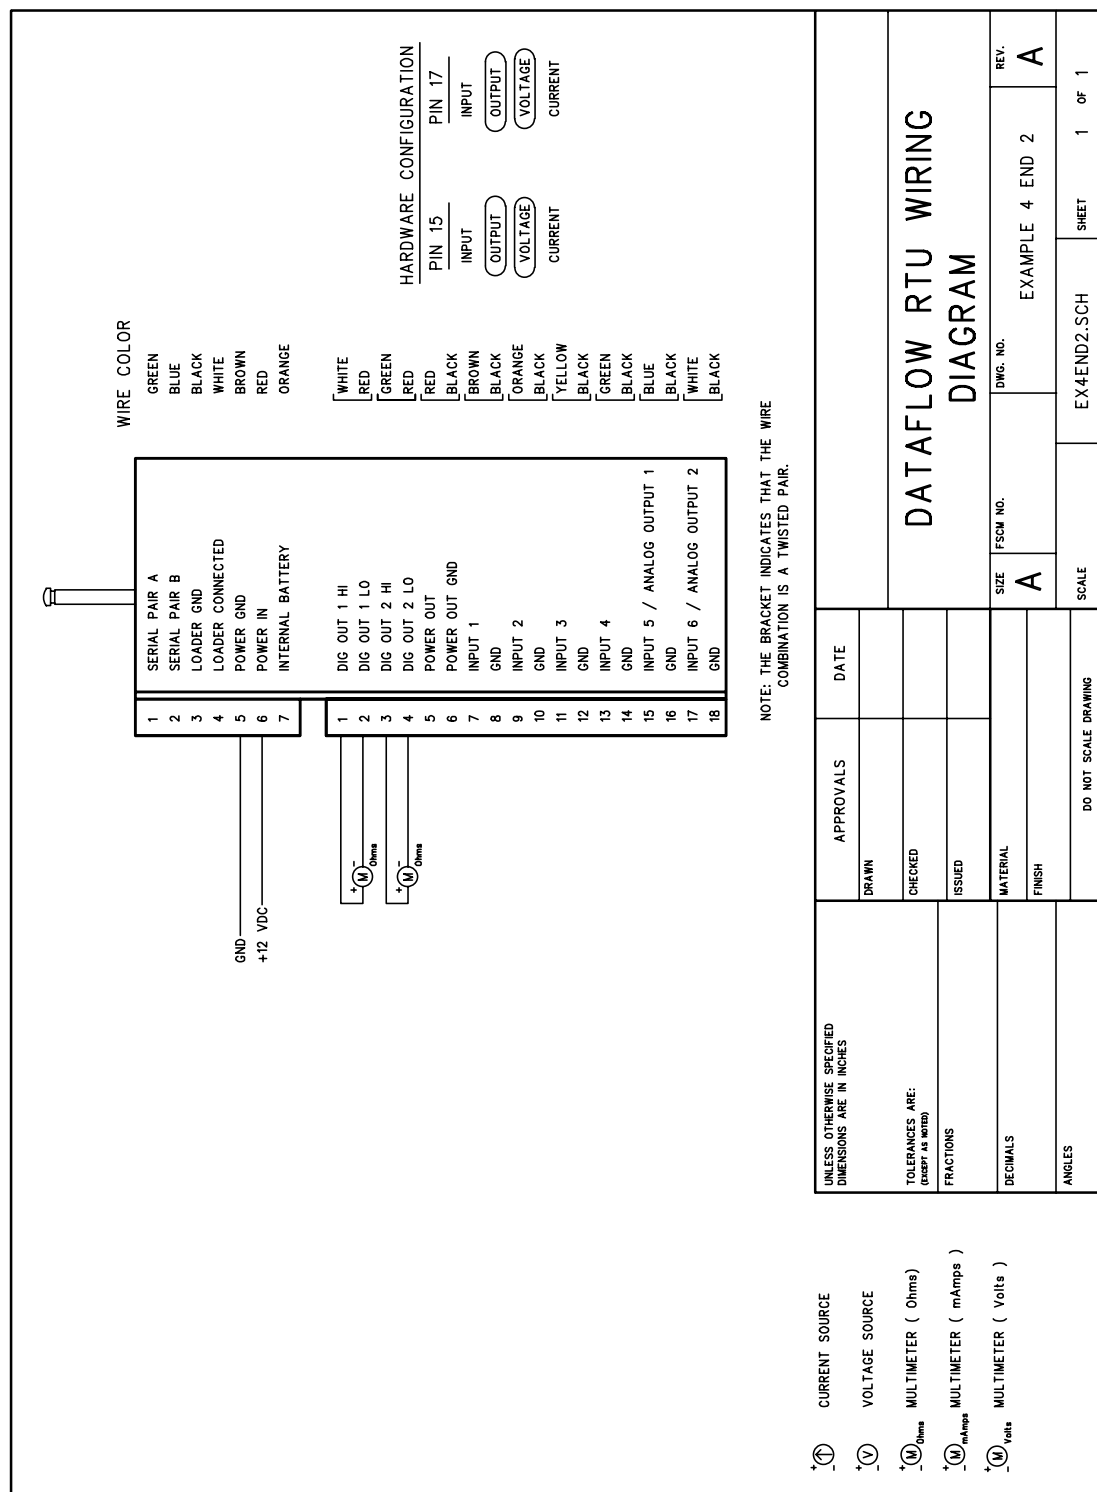

Figure B7 - EXAMPLE 4 RTU ID 2 Wiring Diagram
8.5.1 RTU ID 1 SETUP: Example 4 requires one **DATAFLOW RTU** to be wired and its hardware configured according to Figure B7 - EXAMPLE 4 RTU ID 1 Wiring Diagram shown on page B-31. Load Software Programming configuration file **EXP4ID1.USR** into RTU ID 1.